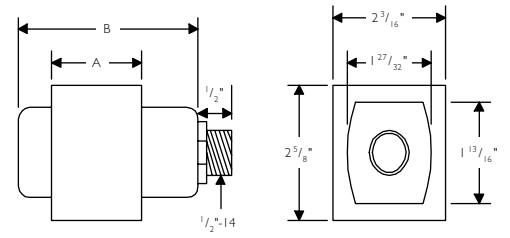

Fig 11
-J (available where shown) includes J-Box cover and auto-reset thermal protection. Refer to Figure 11.